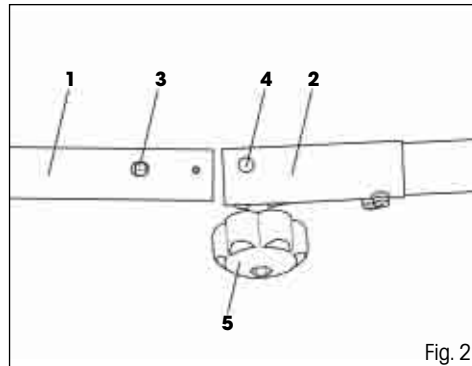

Fig. 2
- Connect the shaft of the brush cutter (Fig. 2). Insert the bottom part of the shaft (Fig 2, point 1) into the coupling (Fig 2, point 2), which is a part of the top part of the shaft. The locking pin (Fig 2, point 3) must fit into the hole (Fig 2, point 4). Then secure both parts in place by tightening the screw (Fig 2, point 5). For easier transport of the brush cutter, the shaft can again be separated.